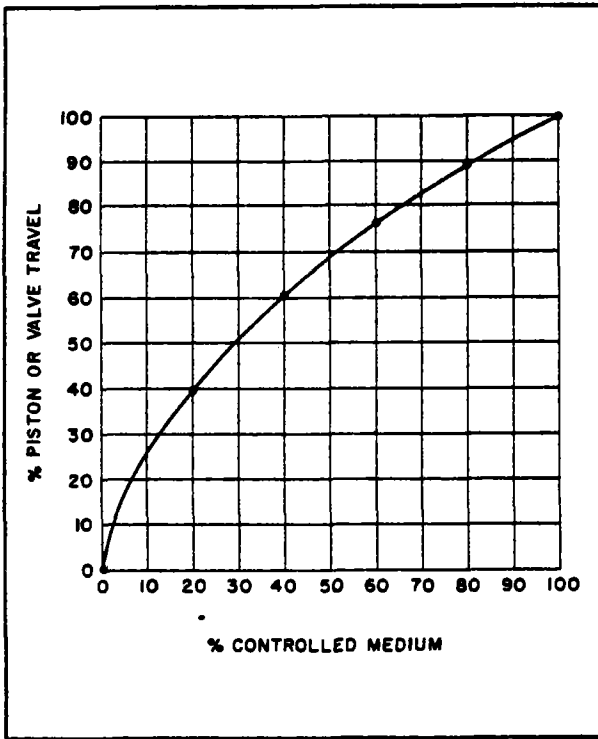

FIGURE 15 - Regulated Device Characteristic
1. Use B (straight line) cam to determine actual controlled medium versus piston (or valve) characteristic (Figure 15).